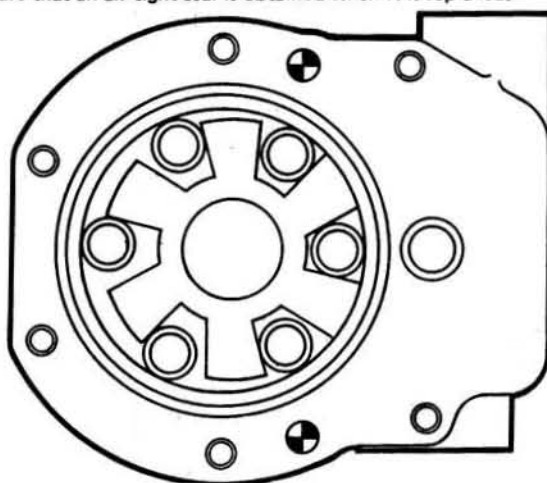

Fig.11.55. Assembly of the roller carrier
- 7 Fit the drive pin to the shaft, examine the roller carrier and if there are no signs of wear fit it into position as shown in Fig.11.55. Be sure that the correct face of the carrier slots are driving the rollers. Fit the snap ring to hold the carrier in position.